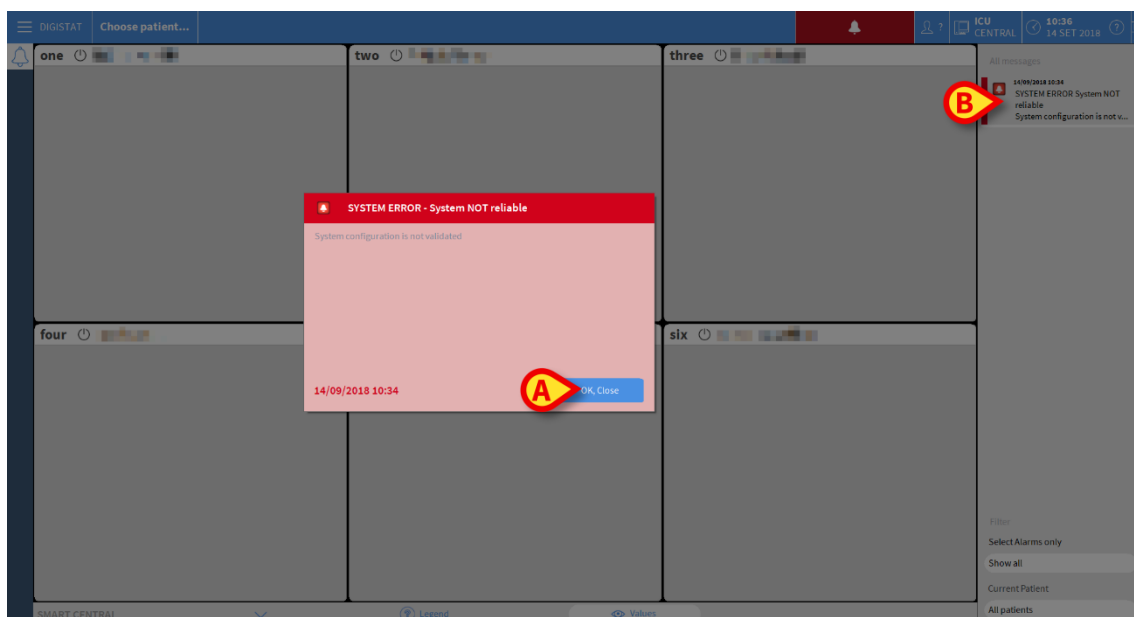
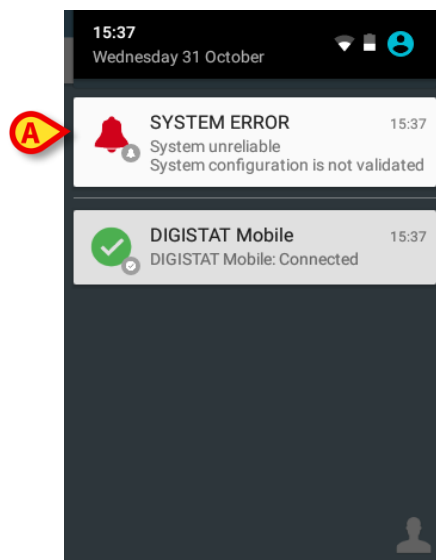

Fig 2 - System not reliable (desktop)
Fig 3 - System not reliable (mobile)
In case the system becomes unreliable, a specific “System error” notification is provided on the desktop workstations (Fig 2), on the handheld devices (Fig 3) and on the optional alarm light tower (red light on, alarm sound).
On the desktop workstations the notifications remain on the lateral bar (Fig 2 **B**) until the unreliability causes are removed and the system is reliable again. In all the beds involved with the unreliability, no patient data is displayed until the system is reliable again.
- Click **Ok, Close** on the notification to acknowledge it (Fig 2 **A**).
On the mobile devices, the following notification is provided (Fig 3 **A**). A sound/vibration alarm is also provided.
- Swipe the notification down to acknowledge it on the mobile (Fig 3 **A**). After this action the sound/vibration stops.